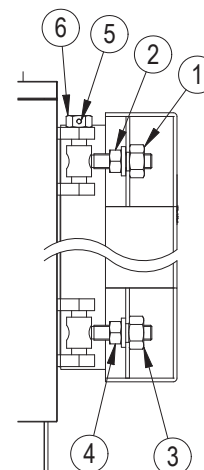

fig. 10
5.6.2 Para modelos PREXTERM RSW 720N+1060N (Fig. 10)